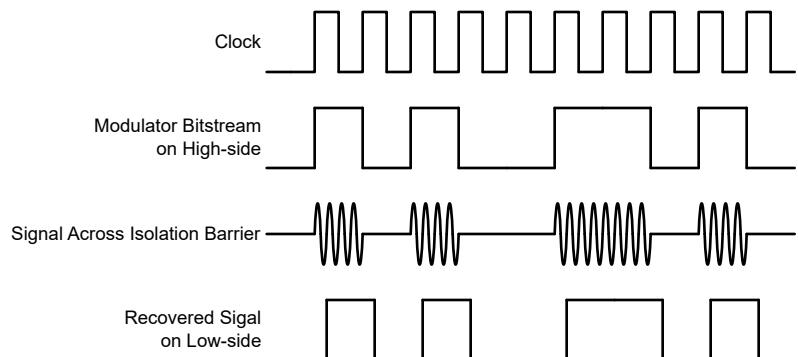

Figure 6-3. OOK-Based Modulation Scheme
The AMC3306M05-Q1 uses an on-off keying (OOK) modulation scheme, as shown in Figure 6-3, to transmit the modulator output bitstream across the SiO_2 -based isolation barrier. The transmit driver (TX) shown in the *Functional Block Diagram* transmits an internally generated, high-frequency carrier across the isolation barrier to represent a digital one. However, TX does not send a signal to represent a digital zero. The nominal frequency of the carrier used inside the AMC3306M05-Q1 is 480MHz.